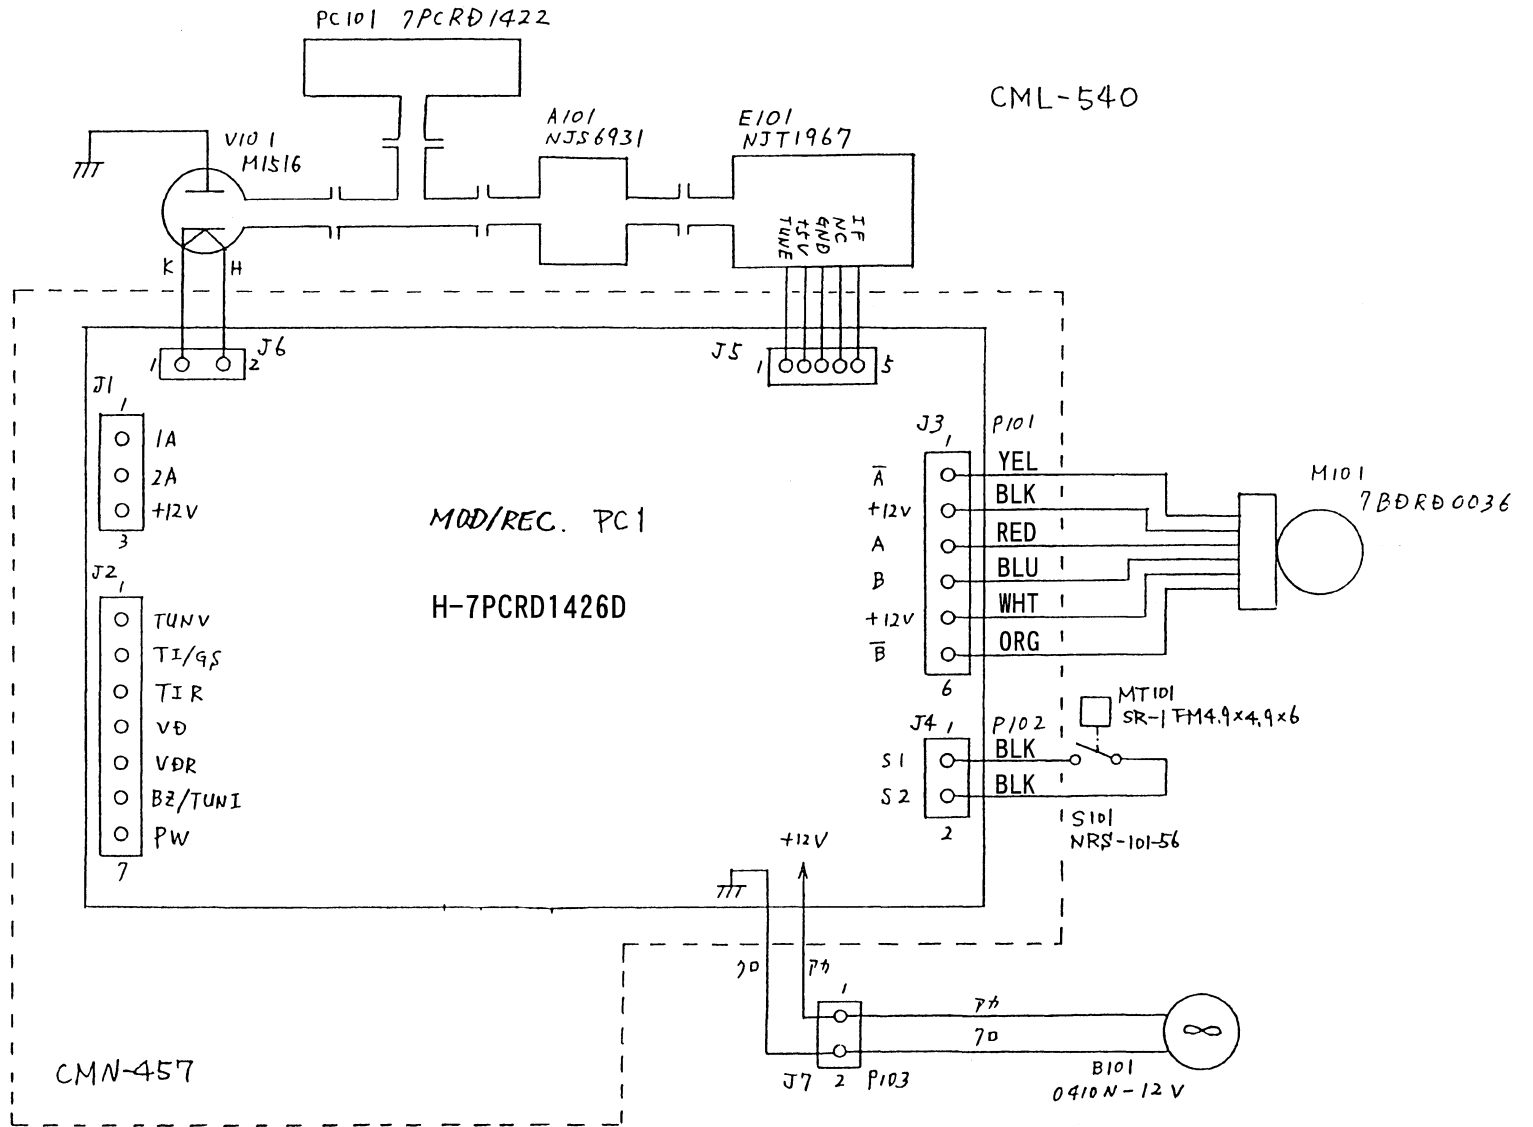

Fig. 105 NKE-1053 Scanner Unit
- Fig. 105 INTERNAL CONNECTIONS OF SCANNER UNIT NKE-1053